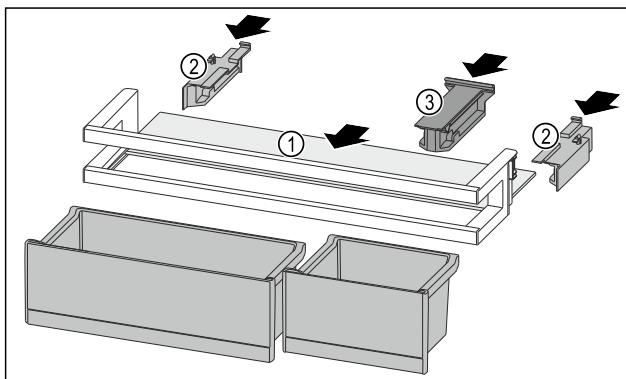

Fig. 124
- ▶ Push the shelf Fig. 124 (1) into the side recesses.
- ▶ Insert the side parts Fig. 124 (2).
- ▶ Insert the holding part Fig. 124 (3).